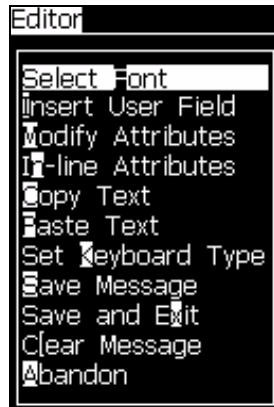

Figure 5-34: Editor Menu
- 1 Press the *Alt+E* keys or press F1. The *Editor* menu appears (see Figure 5-34).